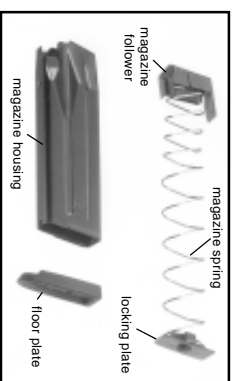

Figure 11A Assembly of Magazine Follower & Spring (12-Round Law Enforcement Magazine)
3. Place the locking plate onto the protruding end of the magazine spring so that the locking detent is visible (see Figure 11A).